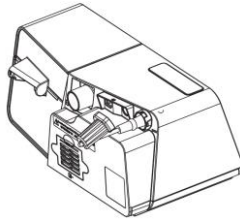

Fig. 11-5
- (1) Connect the device to power supply in accordance with *11.3 Connecting Power Supply*.
- (2) Clip the narrow end of the power cord locker to the cord of the power adapter, as shown in Fig. 11-5.